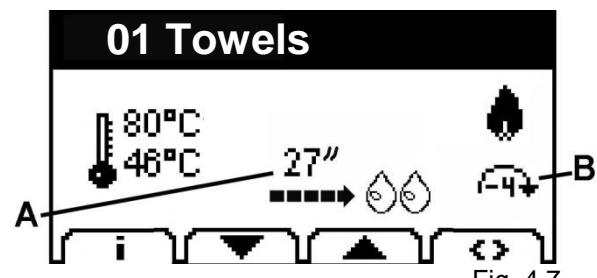

Fig. 4.7
- During the **drying stage**, the drying time elapsed is displayed (Fig. 4.7/A), and depending on the type of drying selected, the Autospeed or speed change icon appears (Fig. 4.7/B).